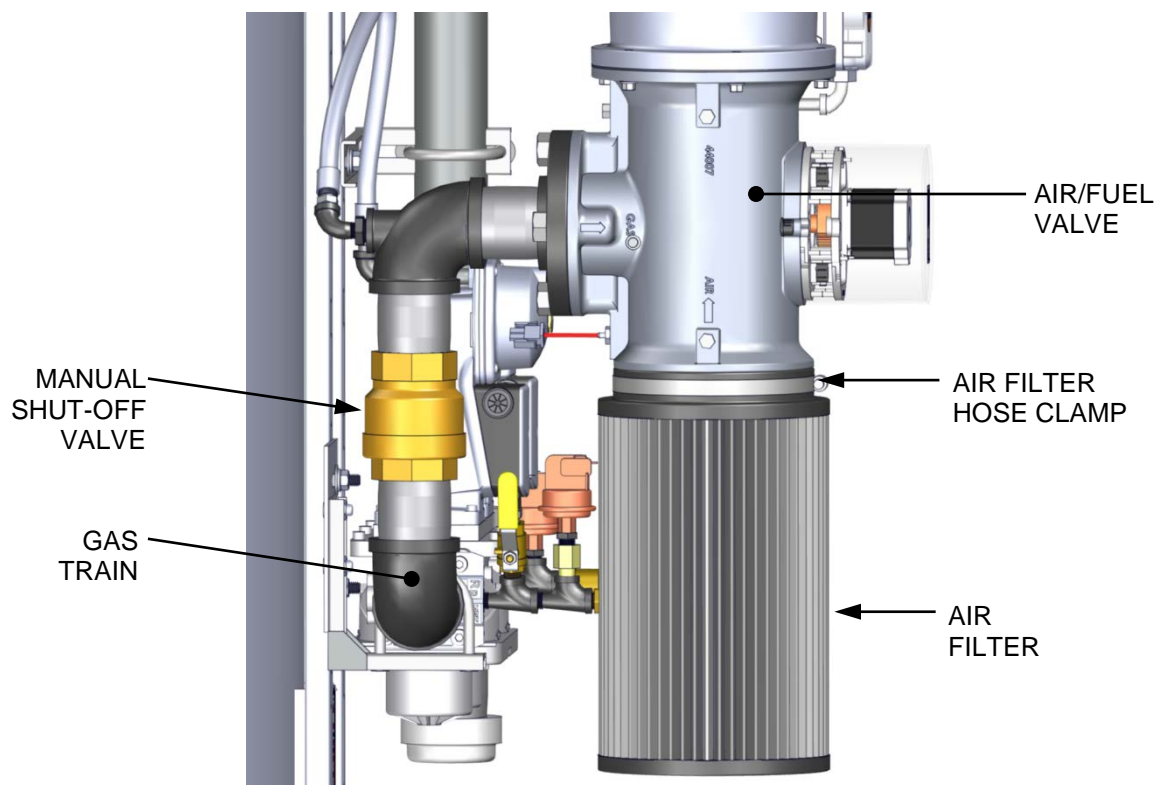

Figure 7-7: Air Filter Location
The Benchmark Heating Boiler is equipped with an air filter (P/N **59138**) which should be cleaned and re-oiled every 12 months and replaced every 24 months. The air filter is located at the air fuel valve inlet, as shown in Figure 7-7.
2. Remove the top shroud from the unit by grasping the top handle and lifting straight up. This will disengage the shroud from the four (4) pins in the side panels.
3. Refer to Figure 7-7 and locate the air filter attached to the air/fuel valve inlet.